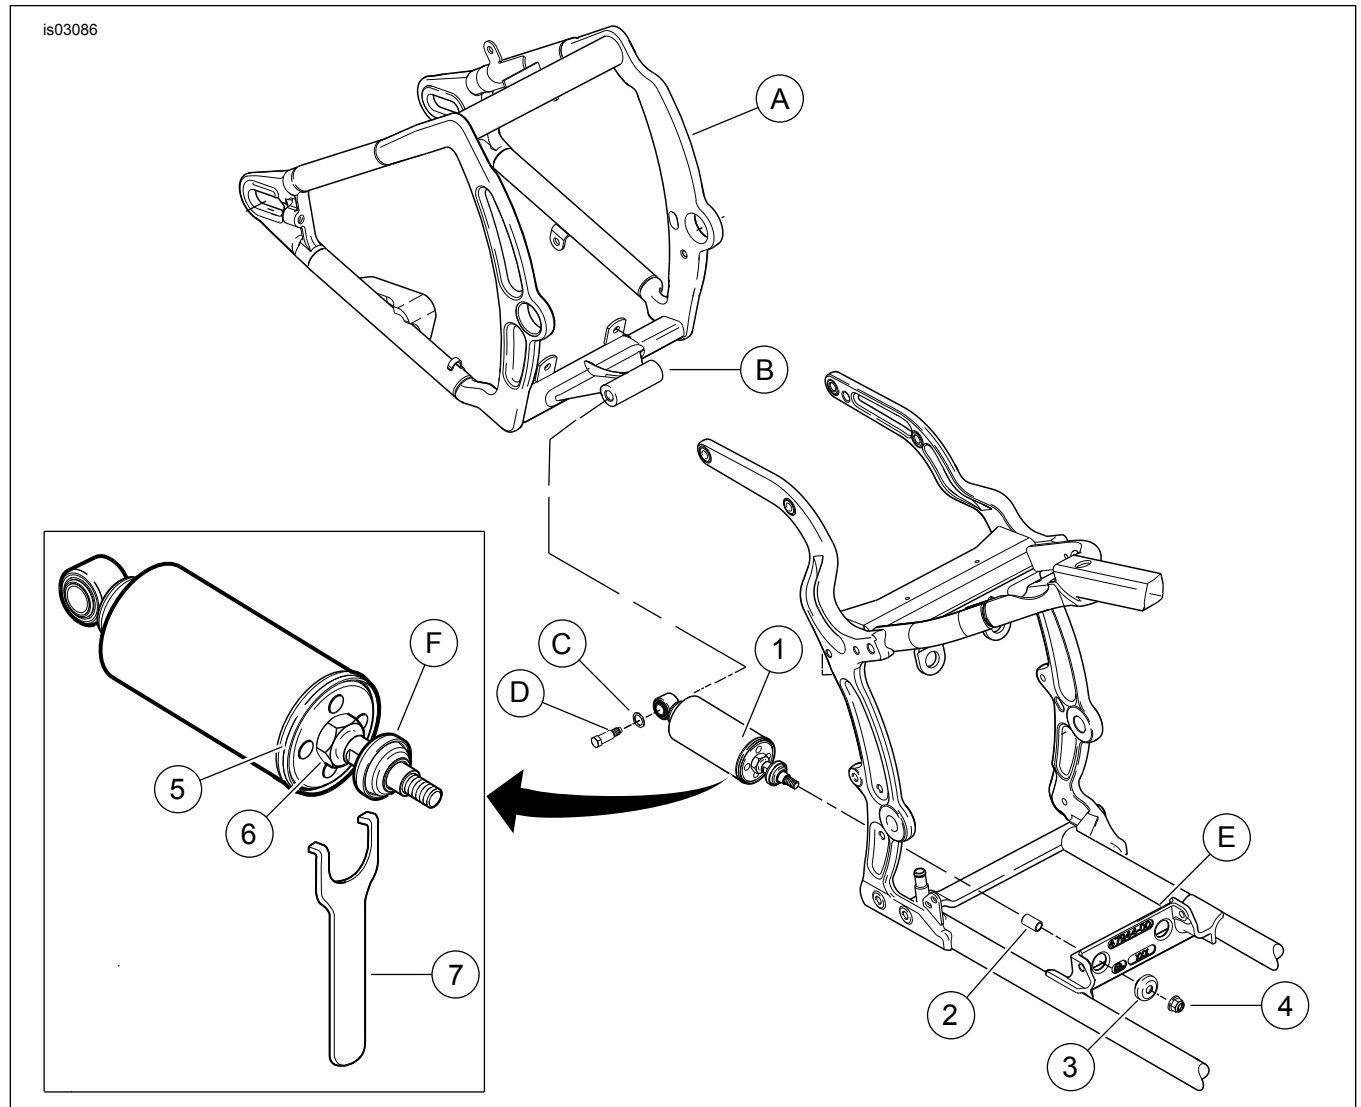

Figure 1. Service Parts: Softail Profile Low Rear Shock Absorber Kit
See Figure 1 and Table 1.
4. See Figure 1. Remove the bolt and washer that fasten each stock shock absorber to the rear fork, and retain for re-installation.
5. Remove the flanged locknut (4) and washer/grommet assembly (3) fastening each shock absorber to the frame crossmember. Discard the old shock and all the threaded-end attaching parts.
1. See Figure 1. Place a mark in the same position on the adjuster plate (5) of each shock.
2. Loosen the jam nut (6) on each shock.
3. Use the shock absorber adjustment spanner wrench (7) from this kit to rotate each adjuster plate to loosen or tighten the shock-absorber springs.